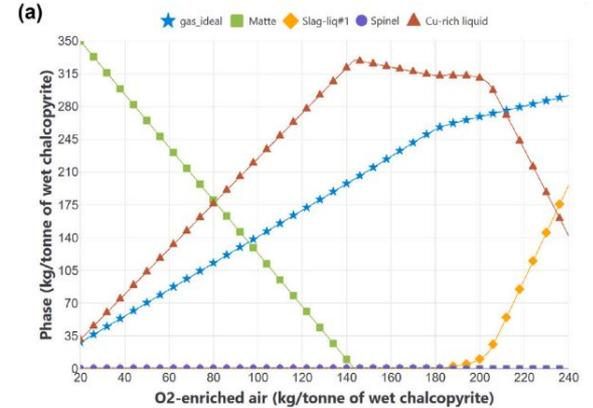

Fig. 10. (a) Phase assemblage evolution during the copper-making step (converter 2) as a function of the air injection in converter 2.
The main area is the **Flowsheet canvas**, which contains a complex process flow diagram. On the left side, there is a **Node palette** with icons for Input, Exit, Splitter, Mixer, Equilib Reactor, and Recycle node. At the bottom left, there is a **Project tree** showing a hierarchy for a project named '2_3_Copper-making_Fig10', including a Summary and a list of Nodes such as Gas input (1), Copper input (2), SiO2 input (3), Smelter (4), Slag output (8), Converter (12), Gas input (13), SiO2 input (14), Phase splitter (16), Gas output (17), SiO2 output (18), and Converter (19).